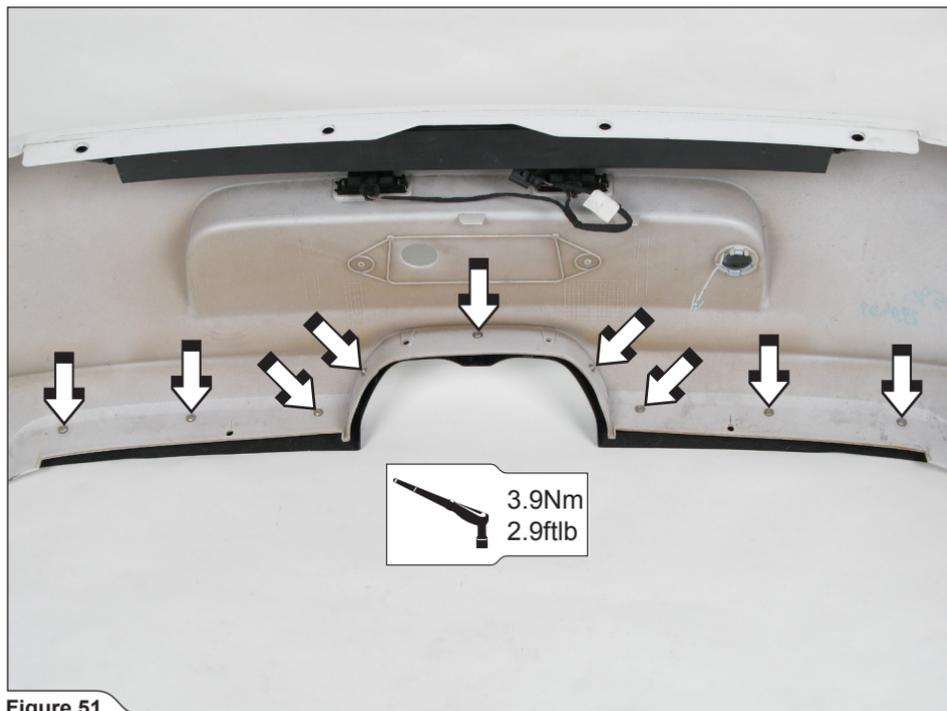

Figure 51
4. First hand tighten the carbon fiber lip onto the rear bumper, center the lip in respect to the bumper and then tighten the bolts to a specified torque (**Figure 51**).